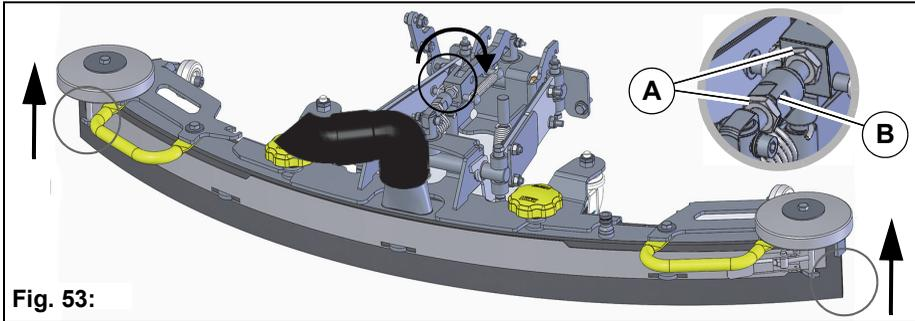

Fig. 53:
2. Loosen the lock nuts **Fig. 53-A** and turn the adjusting bushing **Fig. 53-B** to adjust the squeegee so that the ends of the sealing strips barely have contact with the ground.
The distance of the sealing strip to the ground increases at the ends **Fig. 53**.